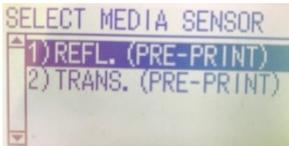

Figure 2. Calibrate Sensor
3. Hold down the pause key until 5-10 labels have fed. The media will continue to be fed until the pause key is released. Figure 2.